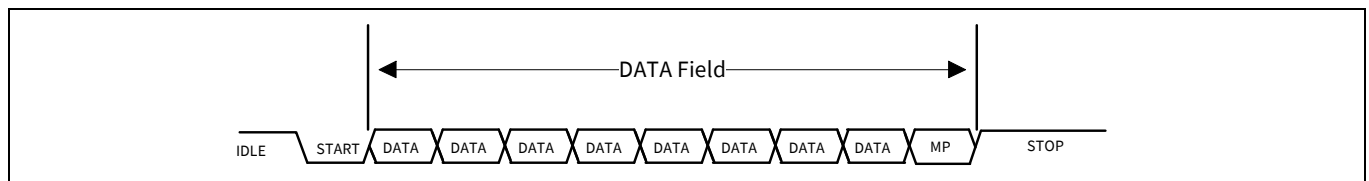

Figure 26-23. UART MP address and data frame
- Using 9-bit data field, with the ninth bit as address/data flag (MP bit). When set high, it indicates an address byte; when set low it indicates a data byte. A data frame is illustrated in Figure 26-23.